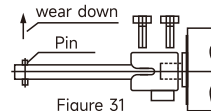

Figure 31
(3)As shown in Figure 31: If cabinet door interlocking is not required, the cylindrical pin at the rivet pin end of the extended shaft can be ground flat; If cabinet door interlocking is required, there is no need to grind it flat. Then insert the extension shaft into the hole of the connecting sleeve, and fasten the switch square shaft with the connecting sleeve and extension shaft using two hexagonal head bolts.